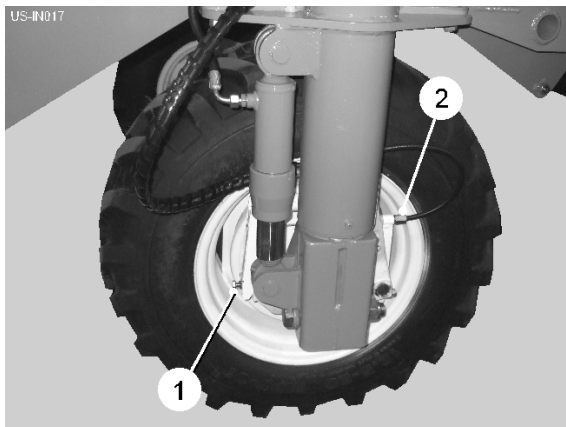
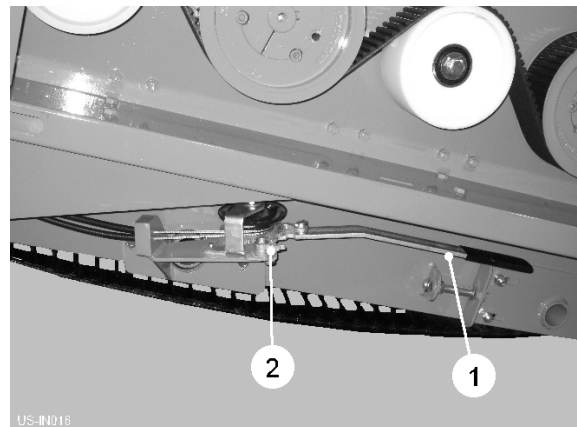

Fig 12
Fig 13
Connect the hydraulic brake hose to the tractor 'brake service outlet'. The machine brakes will operate when the tractor brakes are applied. Brake shoe wear can be taken up by adjusting the setscrews (item 1, fig 12).
To apply the handbrake, pull the lever (item 1, fig 13) in and out against the ratchet until the brake cables are fully tensioned. To remove the handbrake, pull the lever fully out to release the ratchet mechanism catch (item, 2, fig 13). Finally, push the lever back under the machine for transport. Handbrake cable length is set on the cable adjusters (item 2, fig 12).